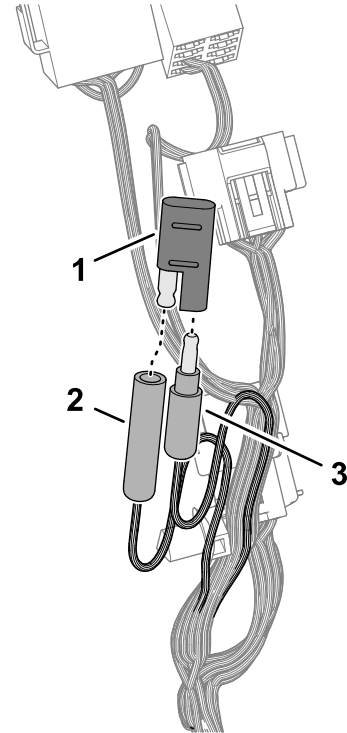

Figure 18
1. Disconnect the single-pin connector from the single-socket connector labeled NA/EU MODE SELECTOR (Figure 18).
2. Plug the single-pin connector and the single-socket connector into the cap plug (Figure 18).